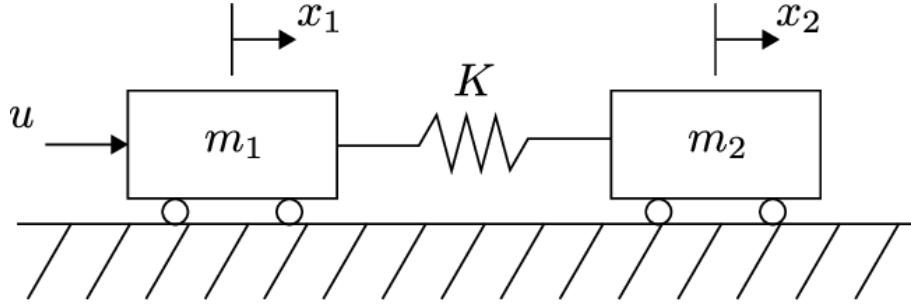

Figure 1: The two-mass-spring system.
2. **Motion planning of a two-mass-spring system.** Consider the underactuated system (ie it has one control input for 2 degrees-of-freedom) of two masses coupled by a spring, as represented in Figure 1, and modelled by
1Each mass coordinate have their own origin, ie the position 0 is meant from their position at rest, separated by the spring, see Figure 1.